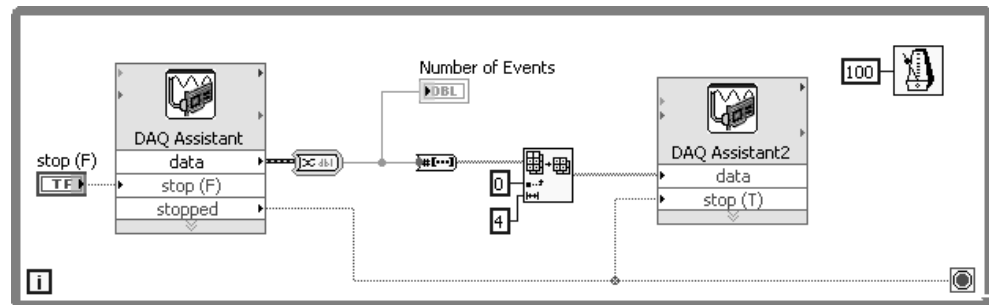

Figure 8-11. Digital Count VI Block Diagram
- Wire as shown in Figure 8-11.
9. Wire the block diagram as shown in Figure 8-11.